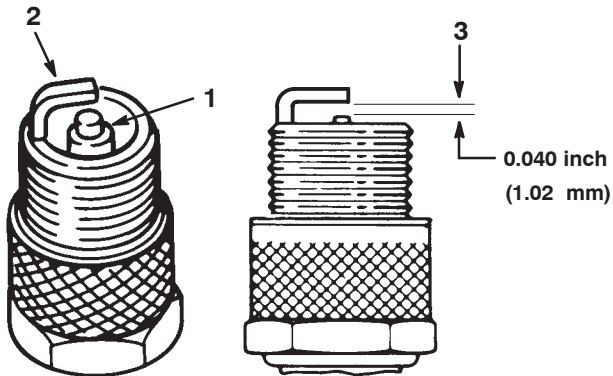

Figure 41
- Look at the center of the spark plug(s) (Fig. 41). If you see light brown or gray on the insulator, the engine is operating properly. A black coating on the insulator usually means the air cleaner is dirty.
- Check the gap between the center and side electrodes (Fig. 41). Bend the side electrode if the gap is not correct (Fig. 41).